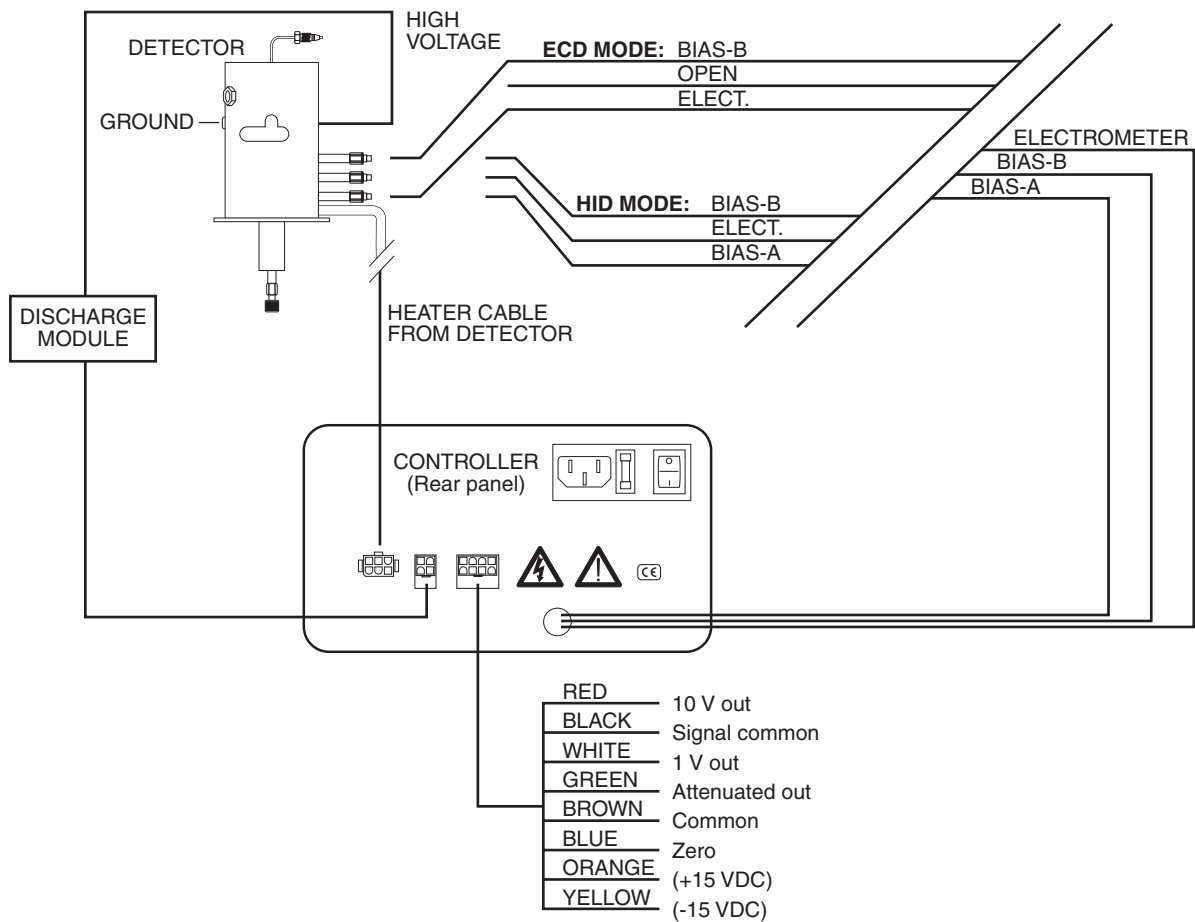

Figure 10: Electrical connections
1. Referring to **Figure 10** as necessary, connect the bias and electrometer cables as follows: the **BIAS-B** cable to the top electrode (closest to the discharge electrodes), the electrometer cable (**ELECT**) to the middle, and the **BIAS-A** cable to the bottom electrode. This setup is the same for both detector models.